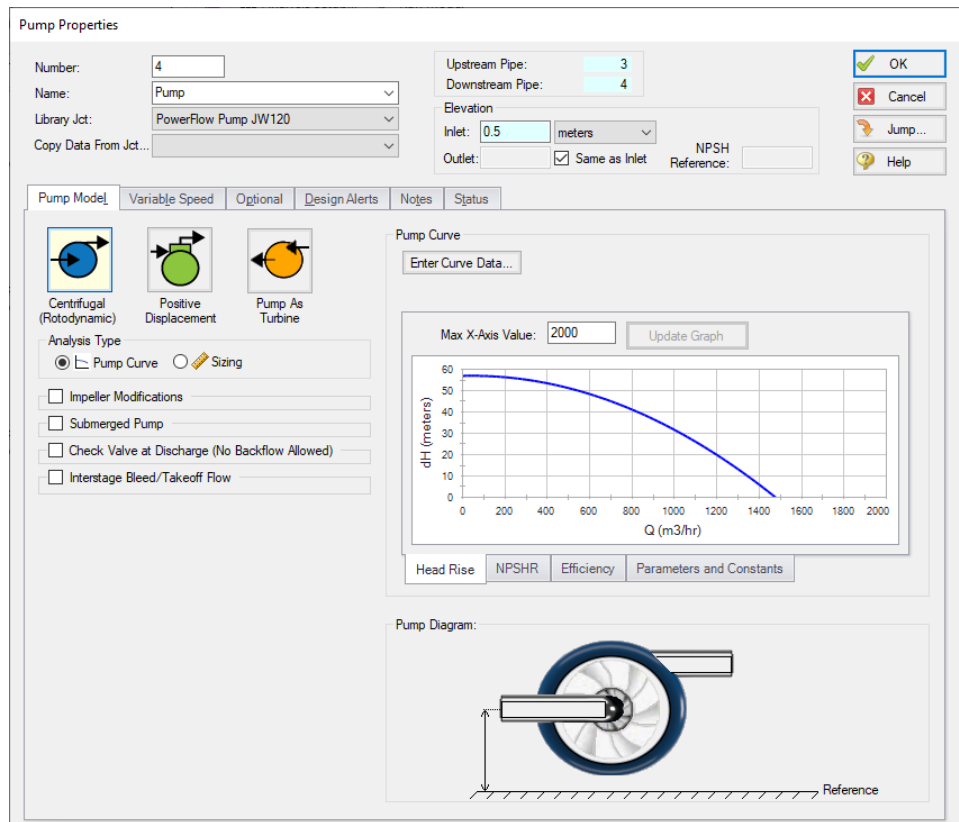

Figure 22: Pump Properties window with the PowerFlow Pump JW120 selected
3. Go back to the Workspace. In the properties window for each of the **pumps** select **PowerFlow Pump JW120** from the Library Jct list to import the pump data from the library as shown in Figure 22, then click OK.